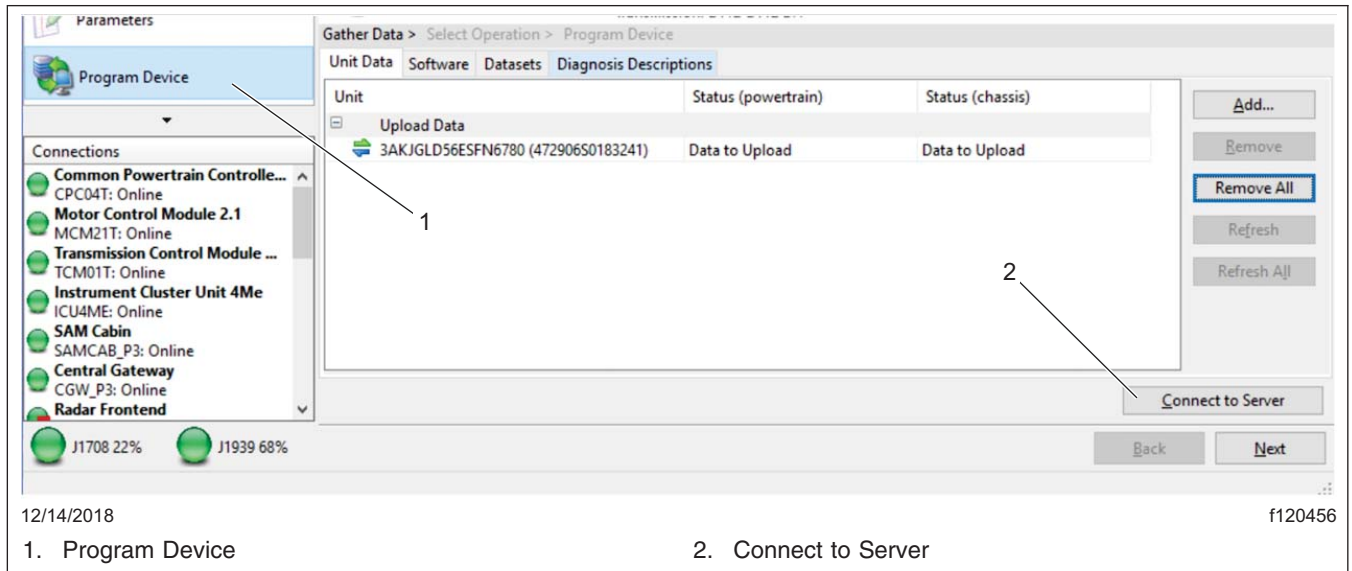

Fig. 4, Uploading Vehicle Parameters
5. Select "Program Device." There should be data to upload. Click "Connect to Server" to upload vehicle parameters to the server. See Fig. 4.